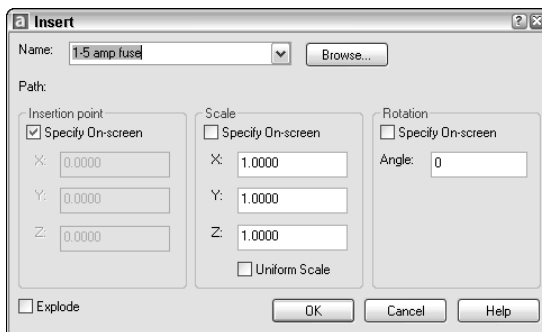

Figure 18-9: The Insert dialog box
1.  Choose Insert Block from the Draw toolbar to start the INSERT command. AutoCAD opens the Insert dialog box, shown in Figure 18-9.